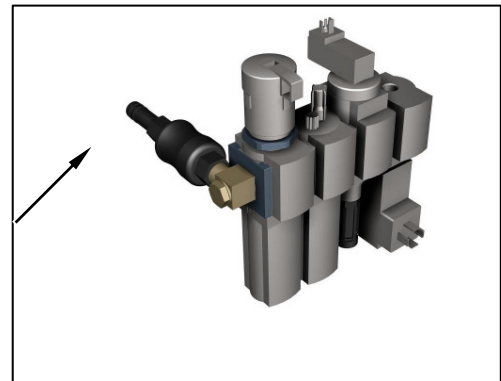

Fig. 4 Hose fitting on the manual slide valve of the service unit
- ▶ Push the feed hose over the hose fitting on the manual slide valve of the service unit (**Fig. 4**).